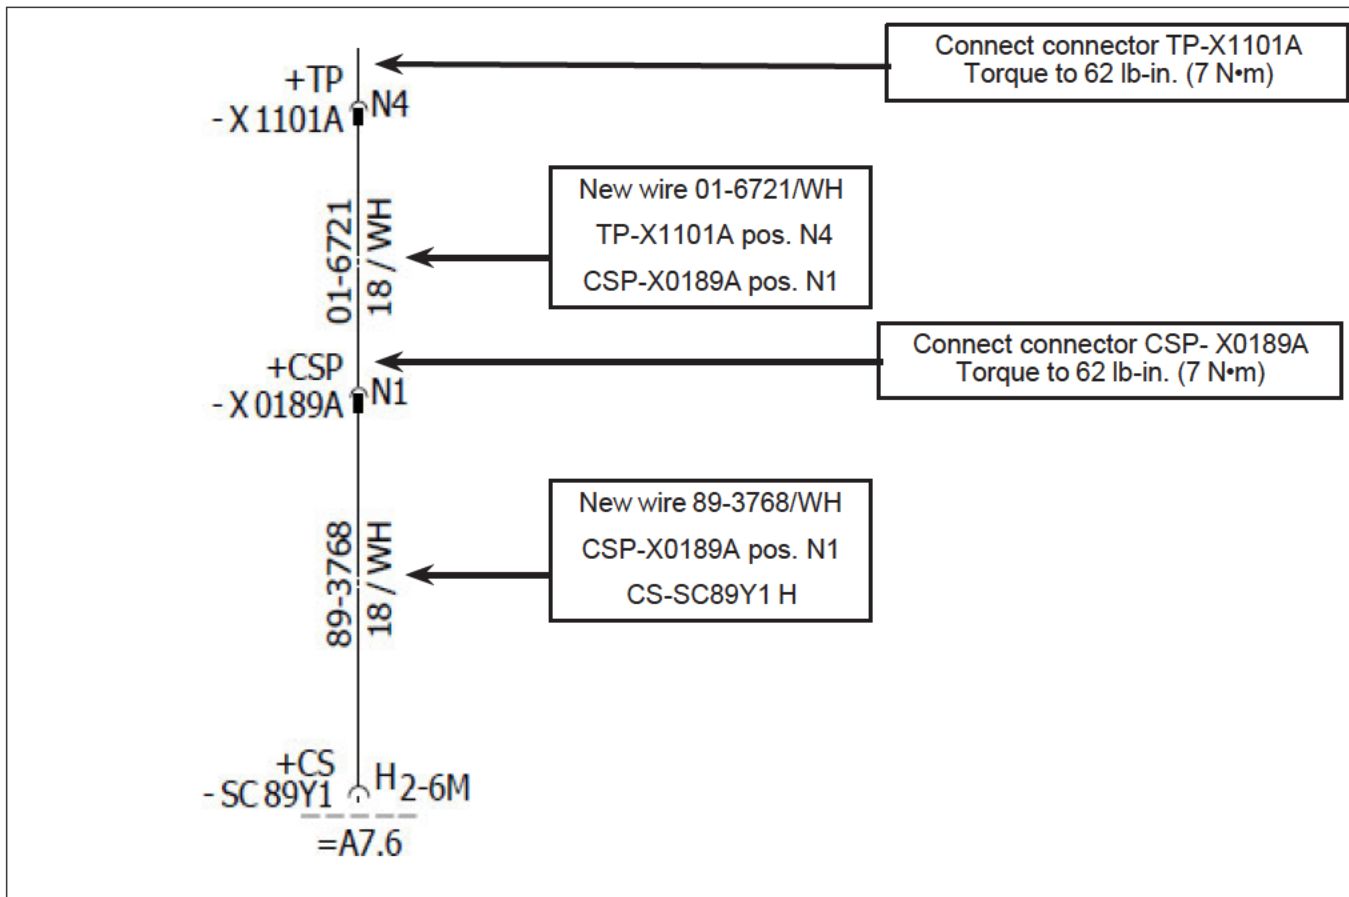

Figure 14 - New Wire 01-6721 and 89-3768 Installation, and connectors torque value
- 1.36. Connect wire 01-6721/WH (available in wire kit N632001301) in connector TP-X1101A and in connector CSP- X0189A. See Figure 14.
- 1.37. Connect wire 89-3768/WH (available in wire kit N632001301) in connector CSP- X0189A and in connector CS- SC89Y1. See Figure 14.
- 1.38. Connect connector TP-X1101A and CSP-X0189A. See Figure 14 for torque value.